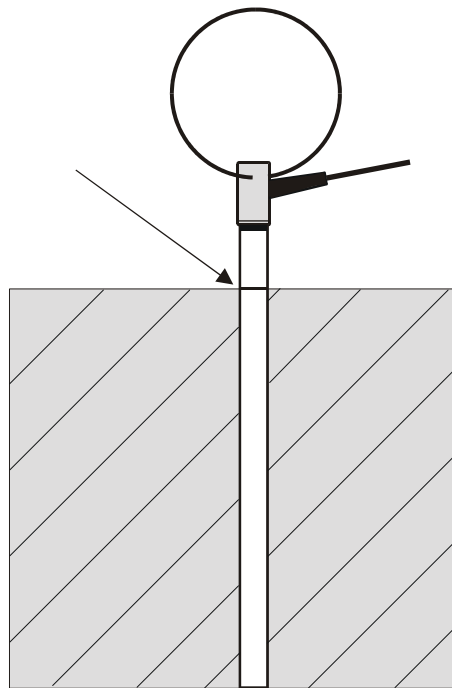

Figure 78 Soil Temperature Sensor Inserted Correctly, Arrow Pointing to Ground Level Line
3. Insert the sensor deep enough into the soil so that the soil/air boundary is at the ground level line. The ground level line is marked on the sensor, see Figure 78 on page 90.